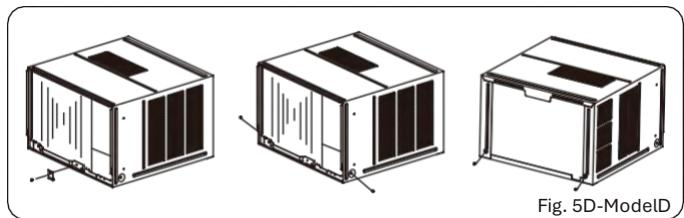

Fig. 5D-ModelD
1. Remove one screw securing the chassis mounting bracket, then remove the chassis mounting bracket (see Fig. 5D).
2. Remove the four screws on both sides and at the back of the cabinet, as shown in Figure 5D.